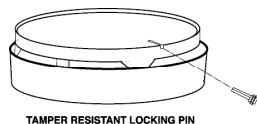

Figure 3
- 6.7 To make your carbon monoxide alarm tamper resistant, a locking pin has been provided in the bag with the screws and anchors. Using this pin will deter children and others from removing the alarm from the mounting plate. To use the pin, insert it into the hole in the side of the alarm after the alarm has been installed on the mounting plate (see fig. 3). Using long nosepliers pull the pin out of the hole, it is now possible to remove the alarm from the mounting plate. Test alarm immediately following installation and weekly thereafter for proper operation by pushing the test button until a short beep is heard (approximately three seconds). Release the button. The alarm will then test itself for proper operation and the RED L.E.D. will flash 5 times. At completion of the self-test, the alarm will sound 2 patterns. The alarm then resumes normal operation.